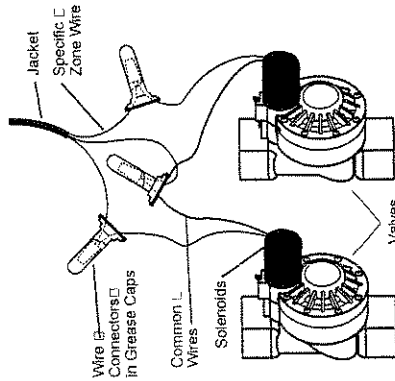

FIGURE 23: Connecting Controller Wires to Valves
- Each valve has two wires. One wire is to be connected as the common. The common wires for all the valves can be connected together to one common wire going to the controller. The other valve wire is to be connected to the specific station wire that will control that valve [See Figure 23].